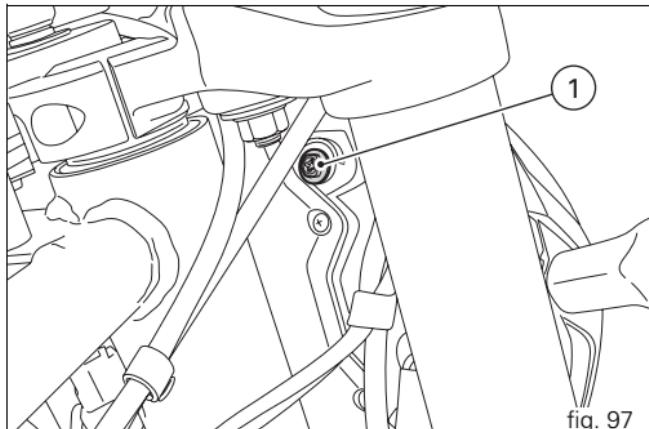

fig. 97
To adjust the headlight beam vertically, turn the adjuster screws (1, fig. 97); for horizontal adjustment, turn the adjuster screw (2).